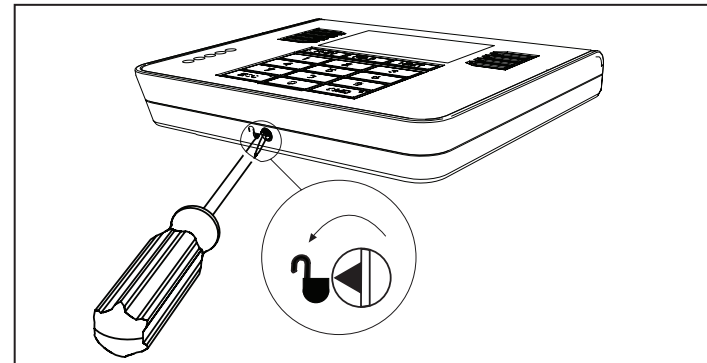

Figure 2.1: Unlocking the keypad
1. Remove the keypad from the base to remove power to the keypad. Refer to *Figures 2.1* and *2.2*.
1. Unlock the keypad by turning the lock counter-clockwise. Refer to *Figure 2.1*.